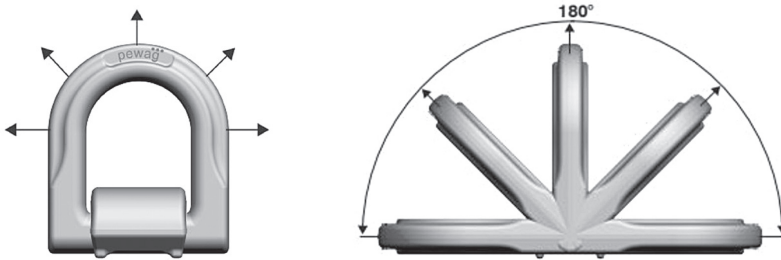

Fig. 1: Permissible pull directions that occur when used correctly.
- Loading must always take place in the stated direction (fig. 1 under section 2 of this manual), with the maximum load capacity according to table 1 and taking into consideration the operating conditions stated in section 2.
LOAD: loading must always take place in the stated direction (fig. 1) with the maximum load capacity according to table 1 and taking into consideration the operating conditions as specified here.
- The pull direction is not in the specified area acc. to fig. 1.